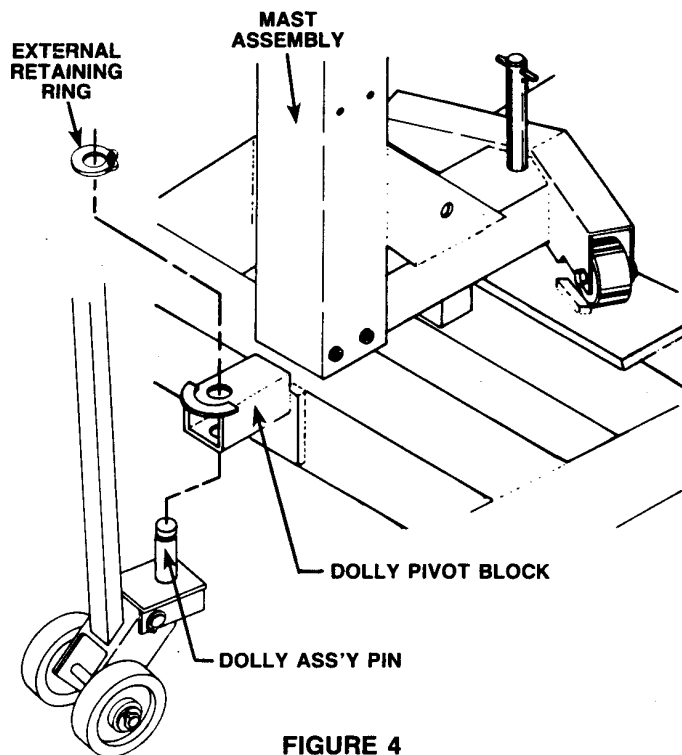

FIGURE 4
8. Raise the rear of the crane, and slide the dolly assembly pivot pin through the dolly pivot block. See Figure 4. Fasten the pin in place with the 1" outside dia. external retaining ring.